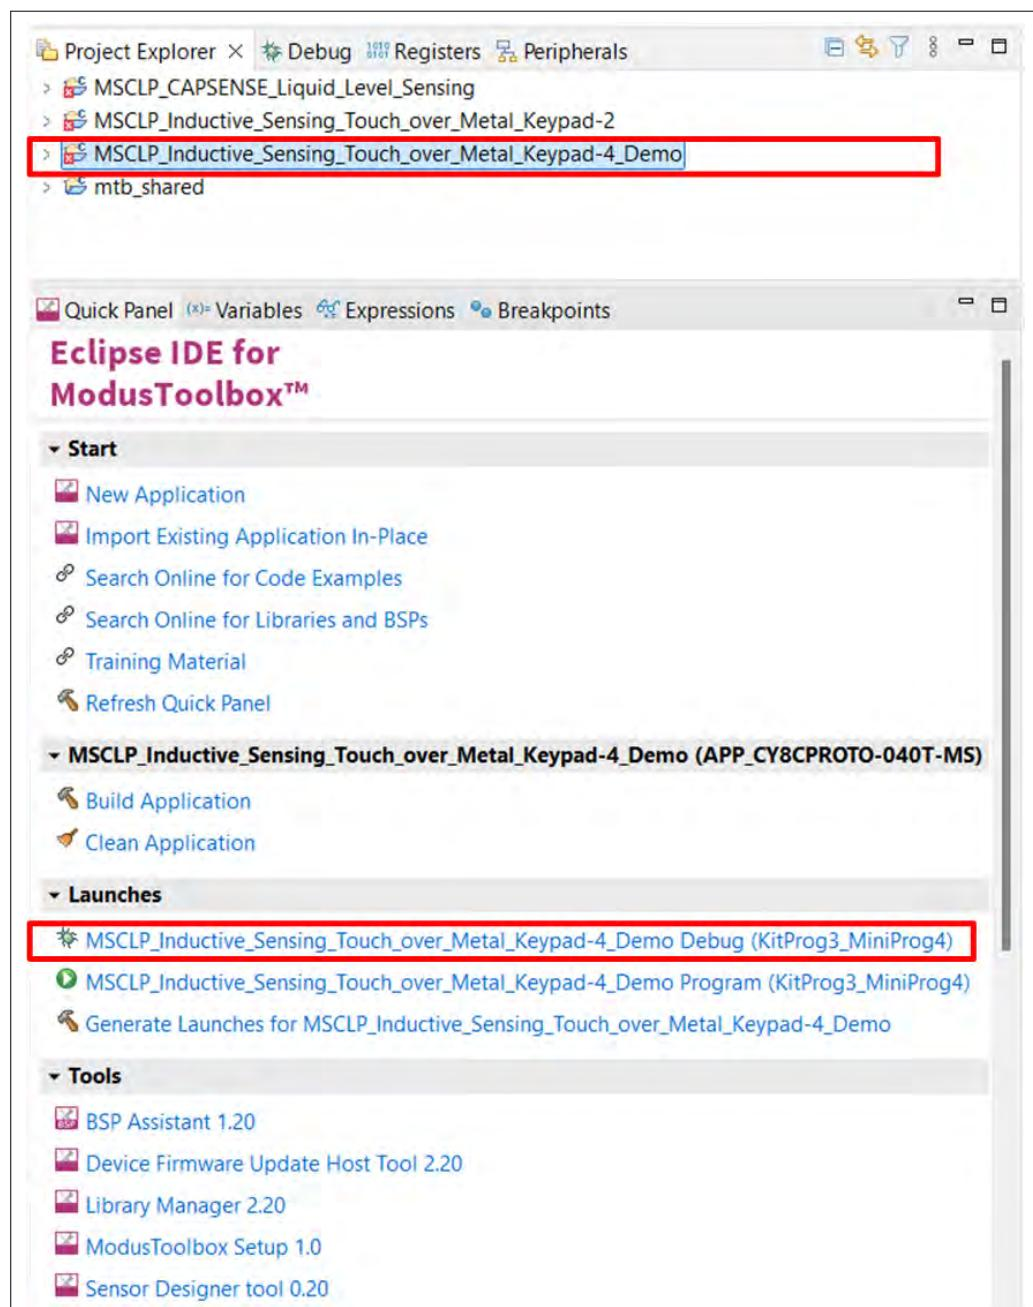

Figure 18 **Debugging the code example**
- In the **Quick Panel**, scroll to the **Launches** section, and click the **<App_Name> Debug (KitProg3_MiniProg4)** configuration, as shown in Figure 18